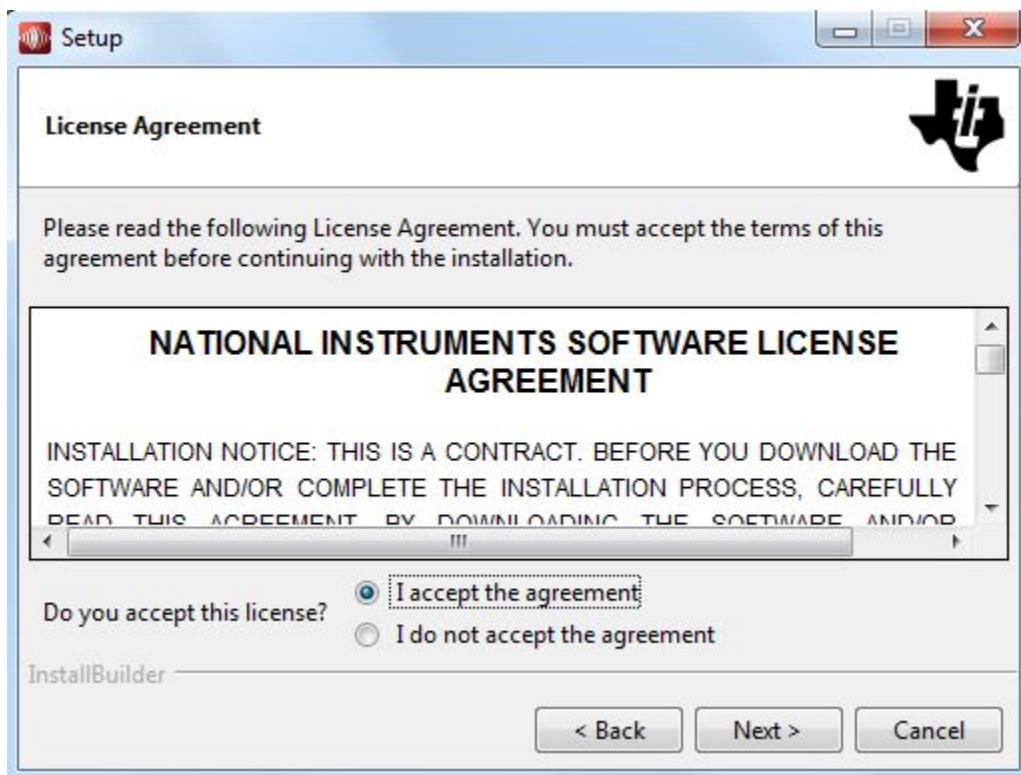

Figure 33. AFE5832 GUI Install (National Instruments® License Agreement)
3. Read the National Instruments® License Agreement and select *I accept the agreement* followed by the *Next* button, as in Figure 33.